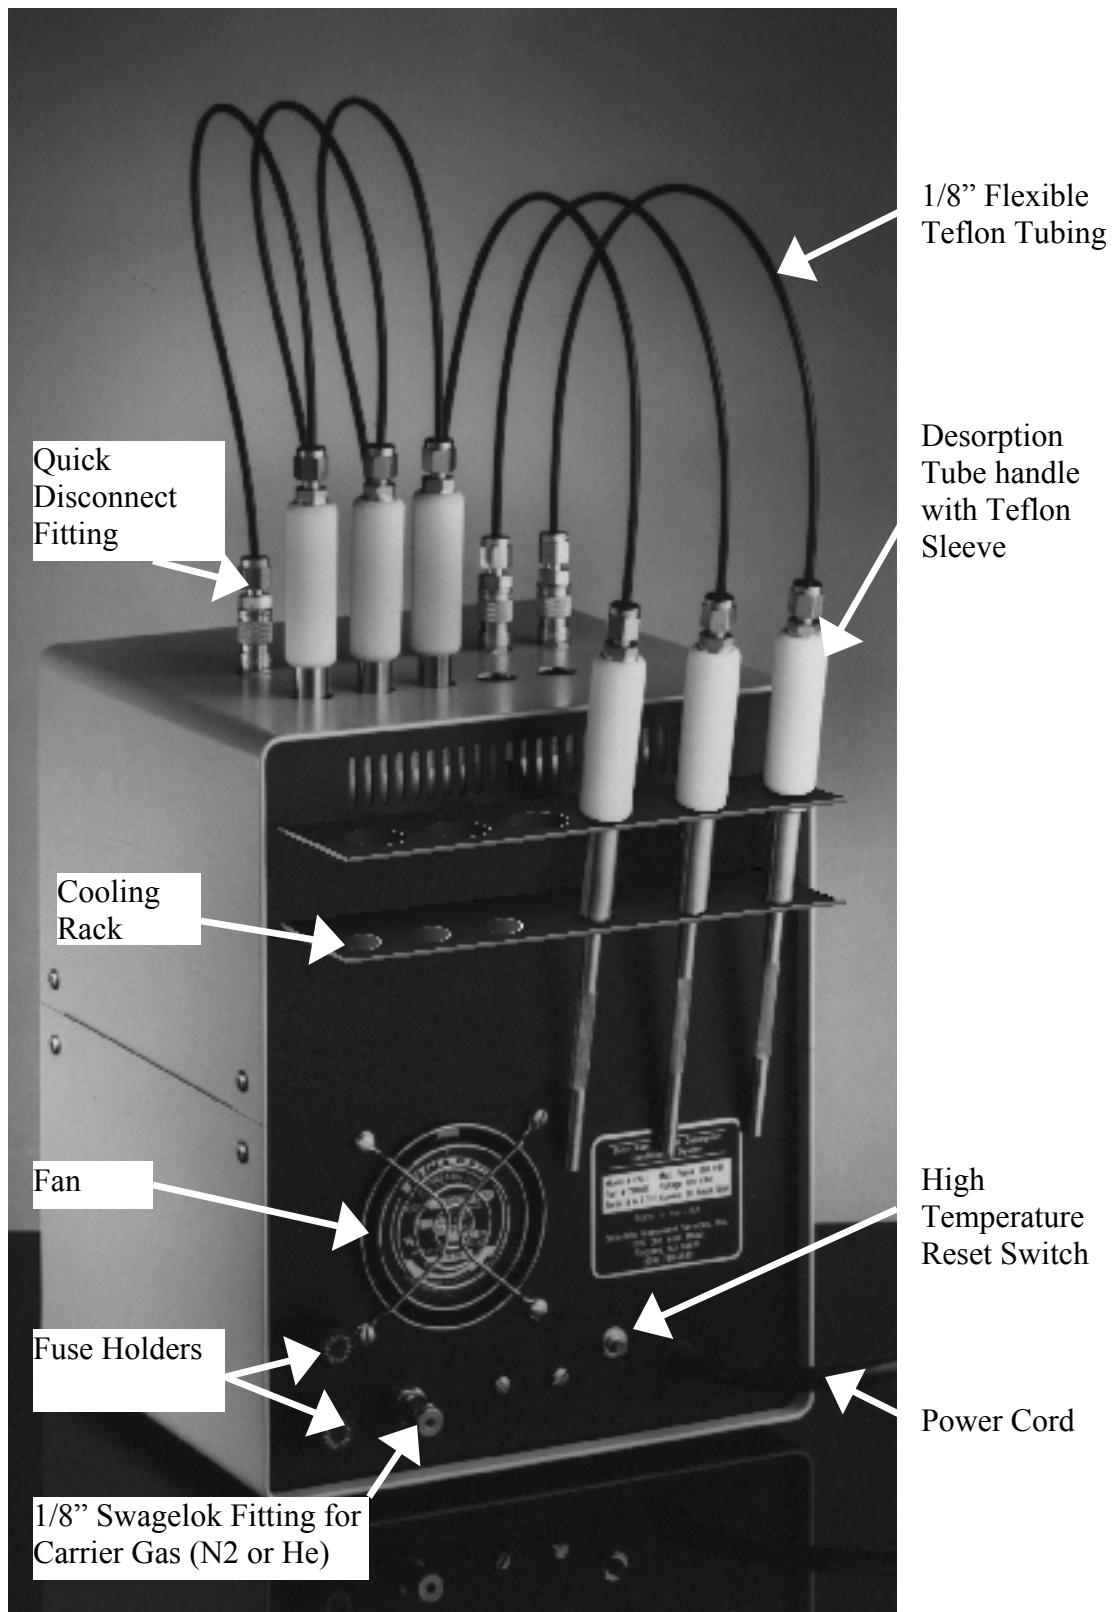
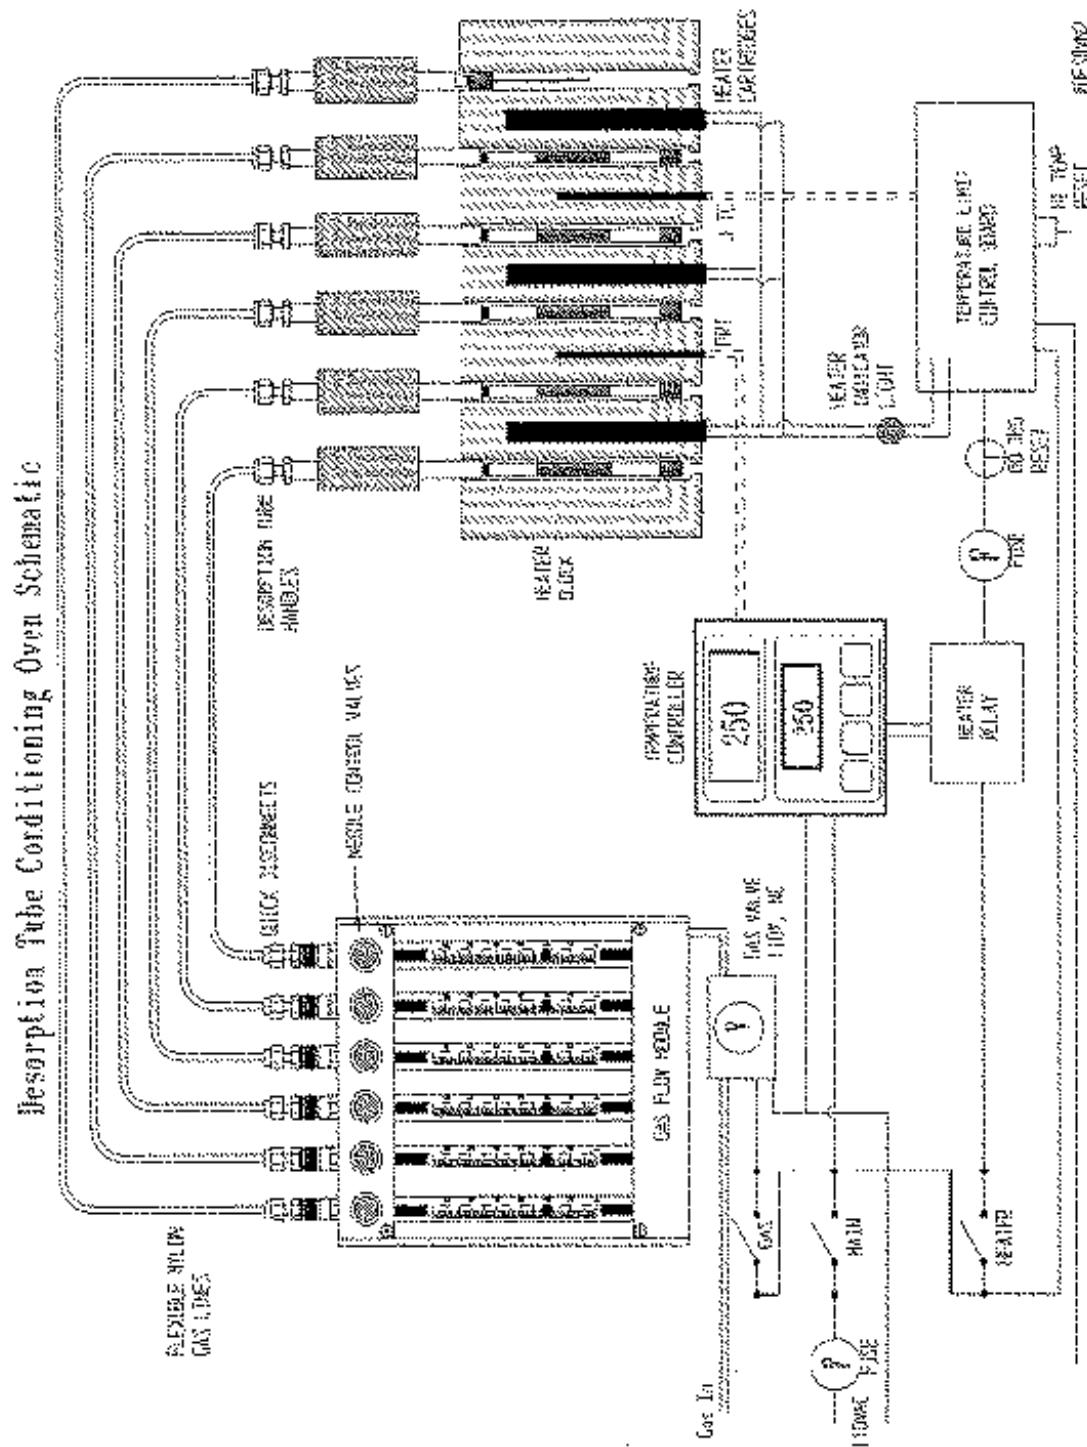

Figure 9-3 – Desorption Tube Conditioning Oven – Rear View
Figure 9-5 – Desorption Tube Conditioning Oven Schematic
The self contained system includes six adjustable bubble rotameters with flow ranges of 0 to 50 ml/min, one for each of the tubes or needles to be conditioned. The recommended flow rate is 20 ml/min. Flow meter calibration data for air and helium are listed in Table I. Each of the flows through the tubes can be independently controlled or flow turned off to that port via a high precision metering valve. A single electrically operated solenoid valve turns the gas flow off or on to all the ports via the Gas Switch on the front panel. The quick disconnect fittings on the top of the Conditioning Oven turn the flow off to individual gas flow lines when disconnected (Figure 9-5).
B. Rear Panel Description (Figure 9-3)
The Desorption Tube Conditioning Oven schematic (Figure 9-5) pictorially represents the overall operation of the system including the gas flow and heater circuits. A 110 volt outlet is required, and 10 amps provides the total electric power required for system operation.
The self contained system includes six adjustable bubble rotameters with flow ranges of 0 to 50 ml/min, one for each of the tubes or needle to be conditioned. Each of the flows through the tubes can be independently controlled via a microneedle valve and the flow turned off to that port if no flow is required. A single electrically operated solenoid valve (v) turns the gas flow off or on to all the ports via the Gas Switch on the front panel (Figure 9-5).
On top of the Conditioning Oven six quick disconnects connect to 1/8" flexible Teflon tubing to provide gas flow through the desorption tubes and needles during conditioning. When a quick disconnect is removed the gas flow is automatically closed to that port. By providing gas flow from a carrier gas such as high purity nitrogen or helium through the desorption tubes and needles while conditioning, it can be assured that no oxygen enters the desorption tubes which could destroy the adsorbent material. Impurities from the inside of the desorption tubes and needles are flushed from the interior surface of these parts. A single 1/8" fitting on the back of the Conditioning System is provided for the attachment of the carrier gas from the source (Figure 9-5 - (Gas in)).
A high temperature limit control board with an external high temperature reset switch (Figure 9-3 and Figure 9-5 - Hi temp reset) prevents the heater block temperature from exceeding 350° C. If the block temperature exceeds 350° C, the external reset switch will automatically open the power circuitry to the heater cartridges. Power cannot be restored to the heater cartridges until the heater blocks are allowed to cool and the external reset switch is manually reset (Figure 9-5). Note: Do not exceed 350° C for the Conditioning Oven heater blocks. Higher temperatures will damage internal circuitry and create a potential meltdown and electrical hazard.